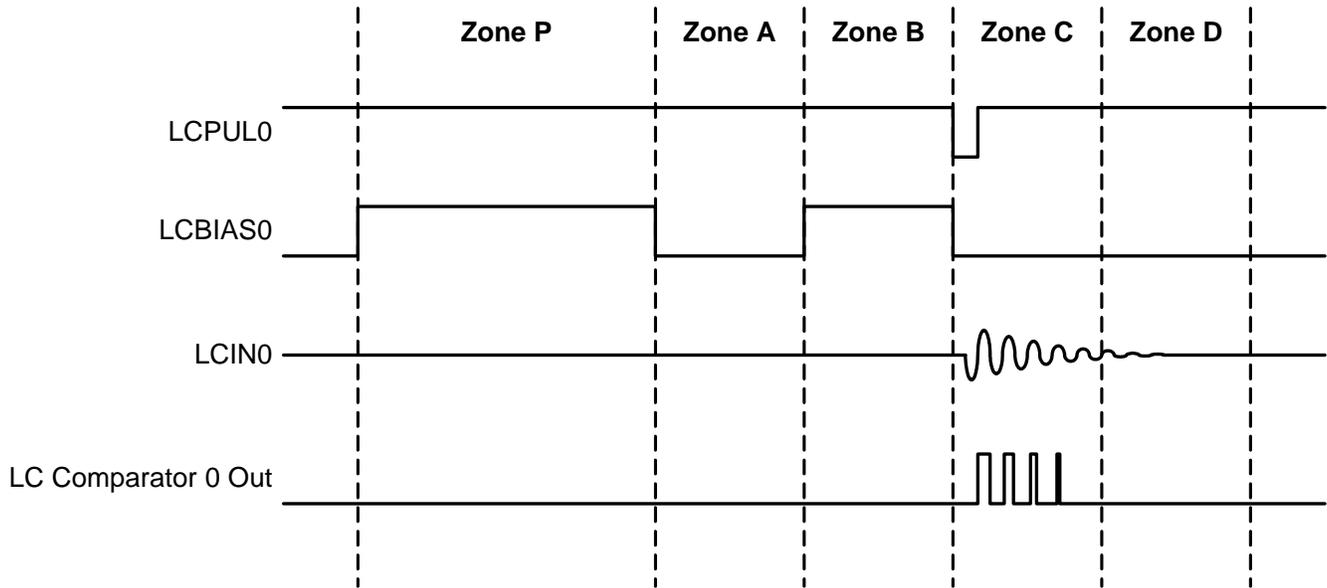

Figure 6. LC Resonant Timing
The LC resonant stimulus circuitry divides the sampling event into a preconditioning zone (P) and four timing zones (A, B, C, D). Timing of each zone can be configured between 1 and 8 RTC0TCLK cycles using the ZONE fields in the TIMING register. The ACCTR0_LCPUL and ACCTR0_LCBIAS pins can be pulsed during selected zones to condition and excite external circuitry. The LC peak counters can then be activated during a selected zone to capture the resulting waveform. Figure 6 illustrates the timing zones with some example stimulus.